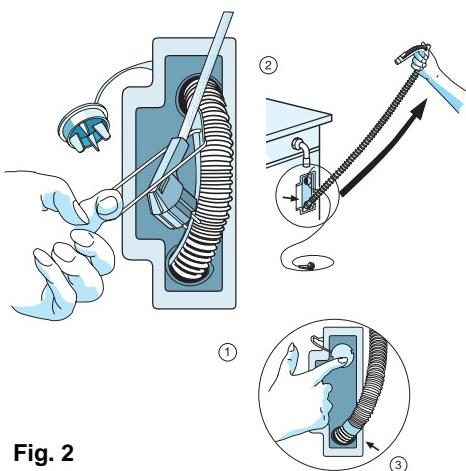

Fig. 2
#### b) Appliance internal drain hose, Figure 2
2. Pull out the hose upwards until the mark on the hose is visible (see Figure 2, arrow in Fig. 3).
1. Fit the drain hose either to the siphon or hook it over the edge of a sink or bath tub with the "U" bend (Fig. 2). Small hand basins are not suitable. The edge of the tub must be no higher than 125 cm above the floor.